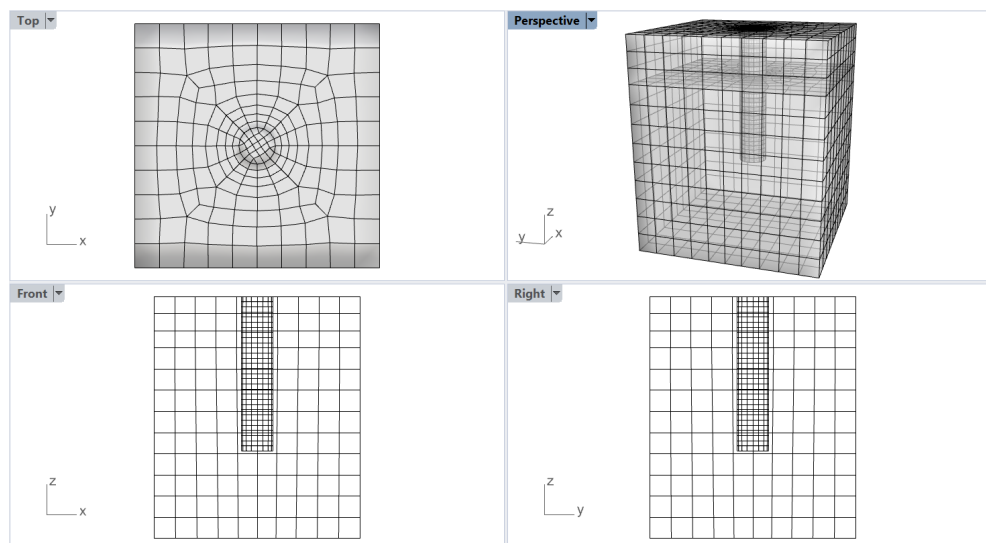

Figure 15: Rhino meshing dialog to create the initial mesh.
16. Select the surface mesh and type **_GSurf** or click on the  icon in the *Griddle* toolbar to remesh the initial triangular mesh. Select *Mode = QuadDom*, *MinEdgeLength = 4*, *MaxEdgeLength = 20* and keep all other parameters at the default values. The resulting mesh is shown in Figure 15.
The surface mesh in Figure 15 looks good and rather symmetric despite the fact that this is an unstructured mesh. **GSurf** was able to create such a mesh due to simple symmetric geometry and the choice of meshing parameters. In general, however, unstructured meshes are rarely symmetric.